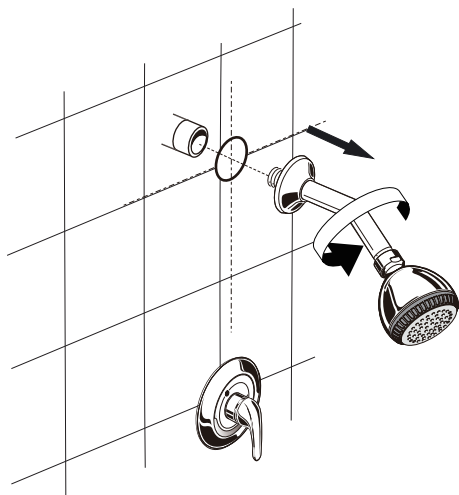

Fig 5.1
- 5-1** Turn off the faucet. Remove the existing shower head and shower arm assembly. (Fig 5.1)